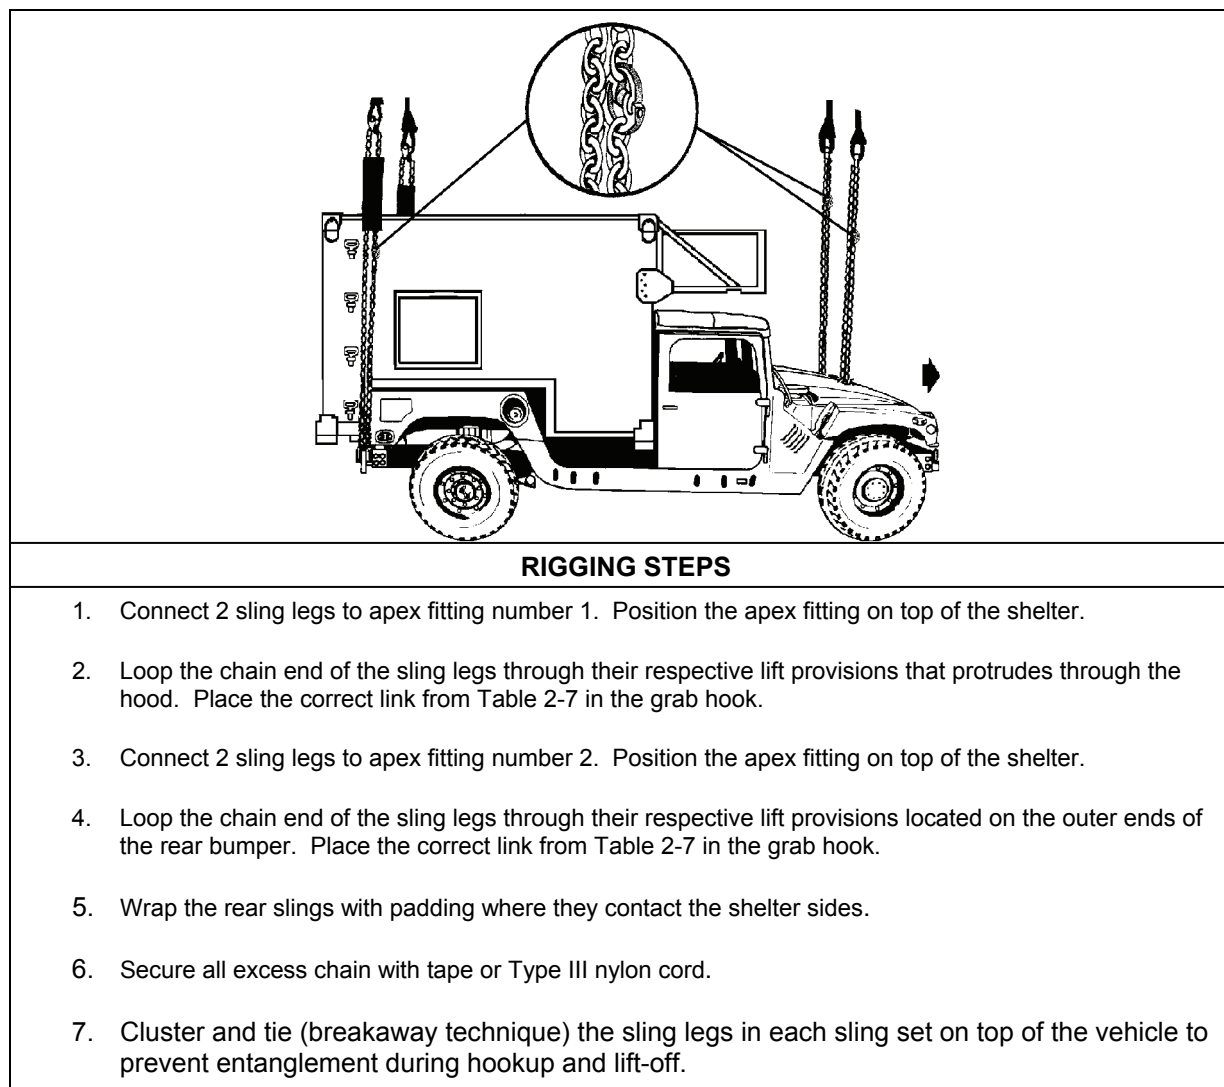

Figure 2-6. M1097/M1097A2 Shelter Carrier with Lightweight Multipurpose Shelter (USMC)
- **Rigging.** (USMC - CH-53) Rig the load according to the steps in Figure 2-6 and using the link counts in Table 2-6. (US ARMY - CH-47) Rig the load according to the steps in Figure 2-7 and using the link counts in Table 2-6.
- **Rigging.** Rig the load according to the steps in Figure 2-6.
Note: The procedures shown in Figure 2-6 may be used as alternate rigging procedures provided there is no interference between the sling leg chains and antenna mounts or other items on the vehicle. When using the procedures in Figure 2-6, use the link counts from Table 2-8.